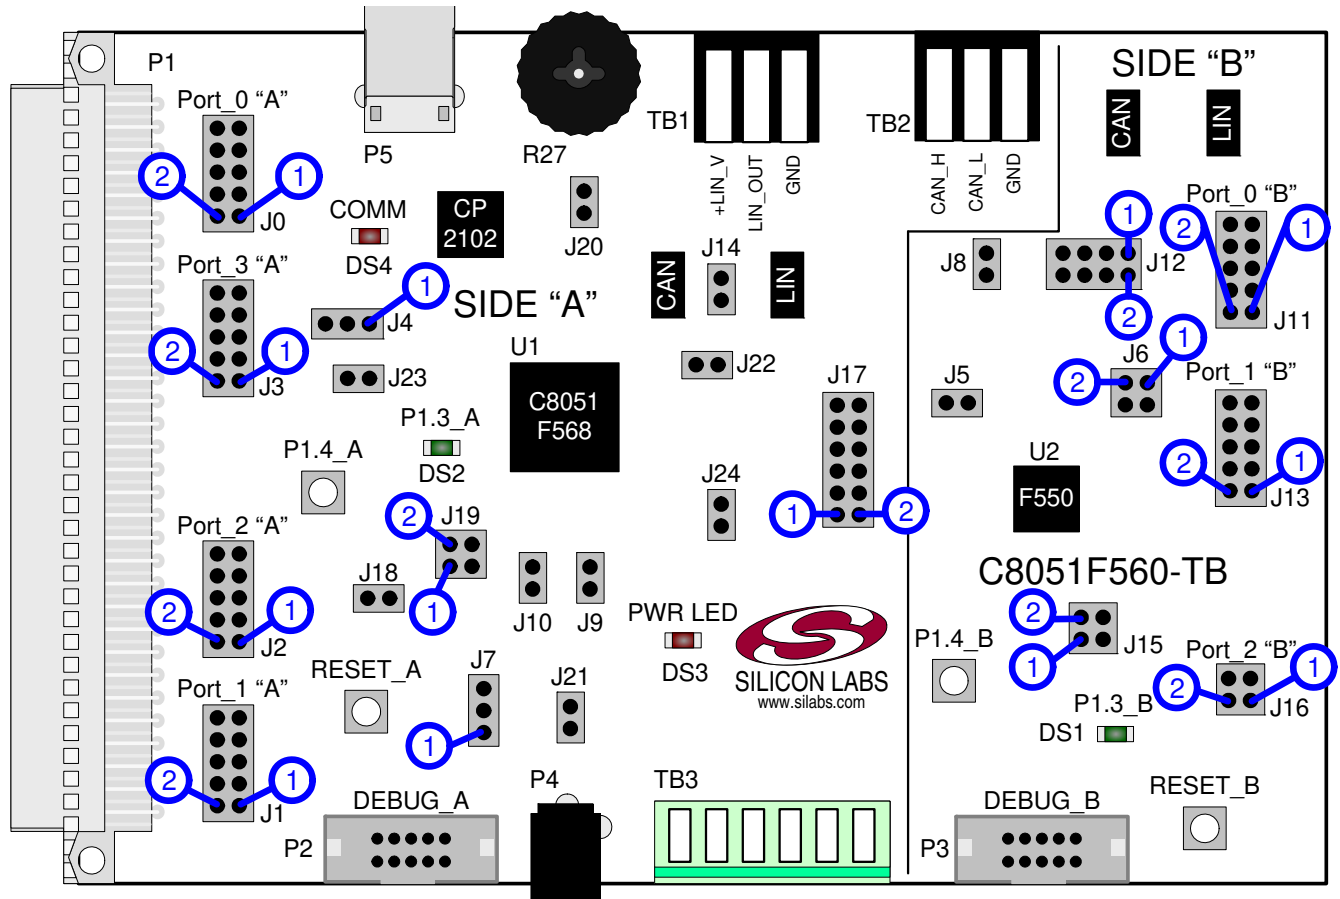
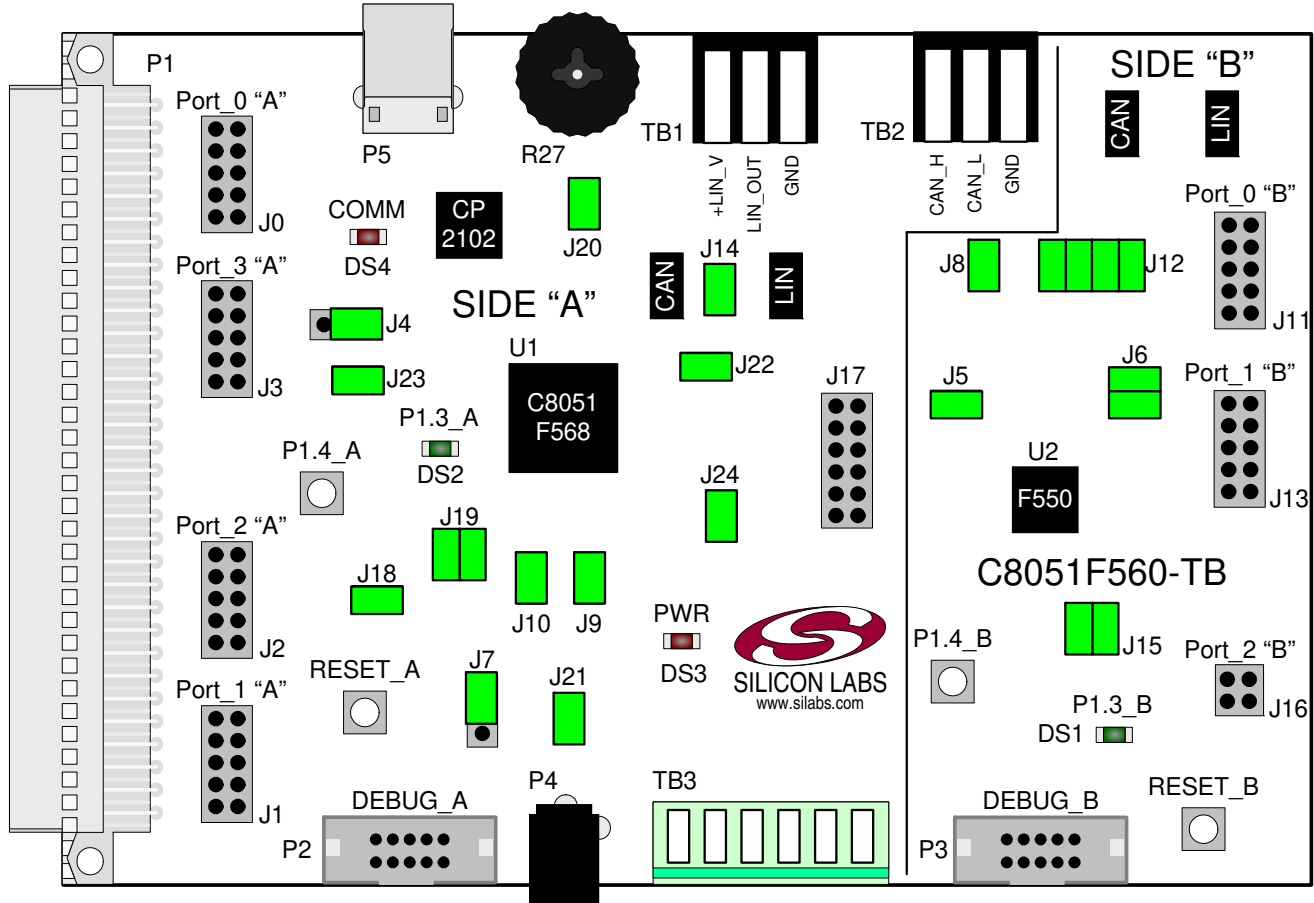

Figure 4. C8051F560 Target Board with Pin Numbers
Figure 5. C8051F560 Target Board Shorting Blocks: Factory Defaults
3. Verify that shorting blocks are installed on the target board as shown in Figure 5 on page 7.
The C8051F560 Development Kit includes a target board with a **C8051F568** (Side A) and **C8051F550** (Side B) device pre-installed for evaluation and preliminary software development. Numerous input/output (I/O) connections are provided to facilitate prototyping using the target board. Refer to Figure 4 for the locations of the various I/O connectors. Figure 5 on page 7 shows the factory default shorting block positions. A summary of the signal names and headers is provided in Table 12 on page 15.
The C8051F560 Target Board comes from the factory with pre-installed shorting blocks on many headers. Figure 5 shows the positions of the factory default shorting blocks.